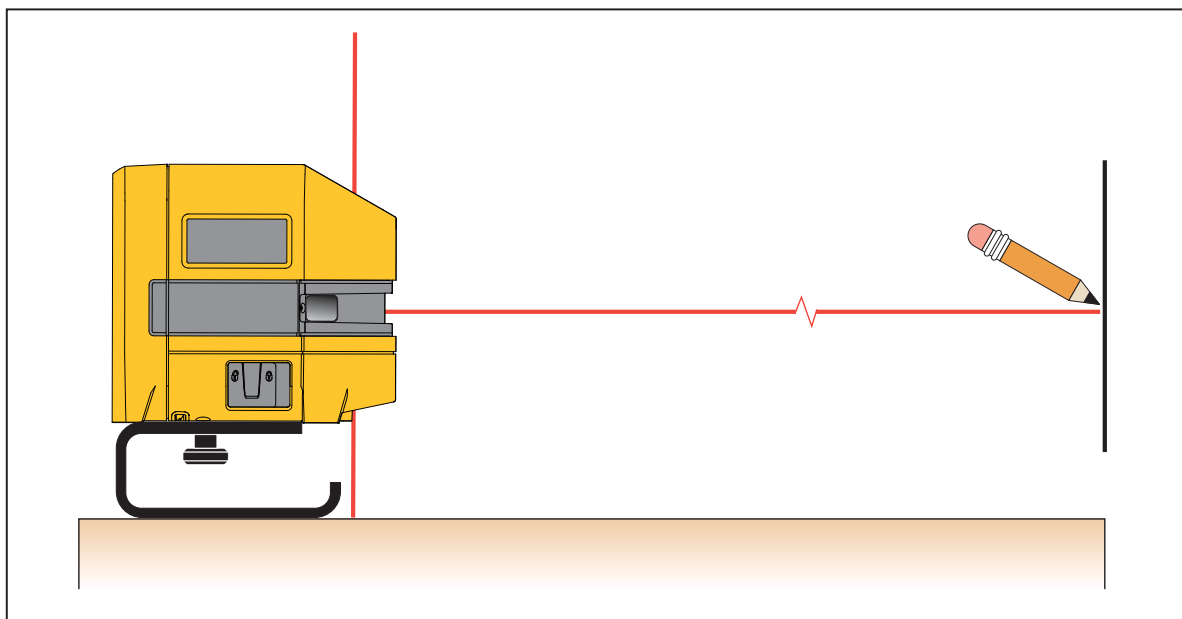

Figure 2. New Horizontal or Diagonal Alignment
2. Turn on the Product and aim the forward laser at the target area. See Figure 2.